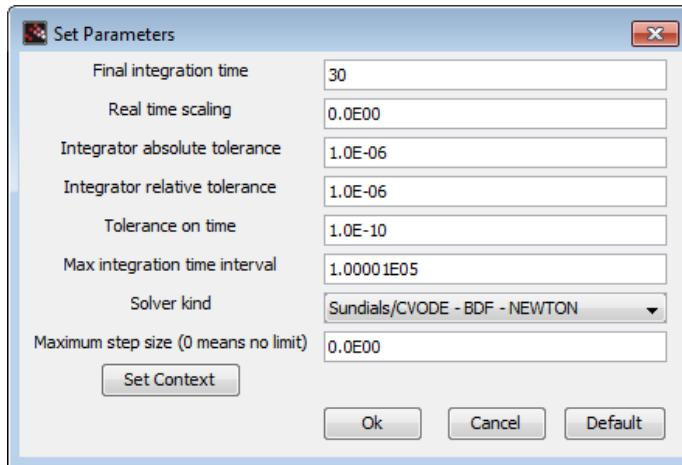

Figure 3.21: Simulation setup window
**Refresh period** of the CSCOPE block. That is, change it to 30 as shown in Fig. 3.21. Now start the simulation and you will get a static plot. Other parameters of blocks can also be changed. For example, one may want to change the input amplitude/frequency or change the plot scales etc. All these are left to the reader to explore.